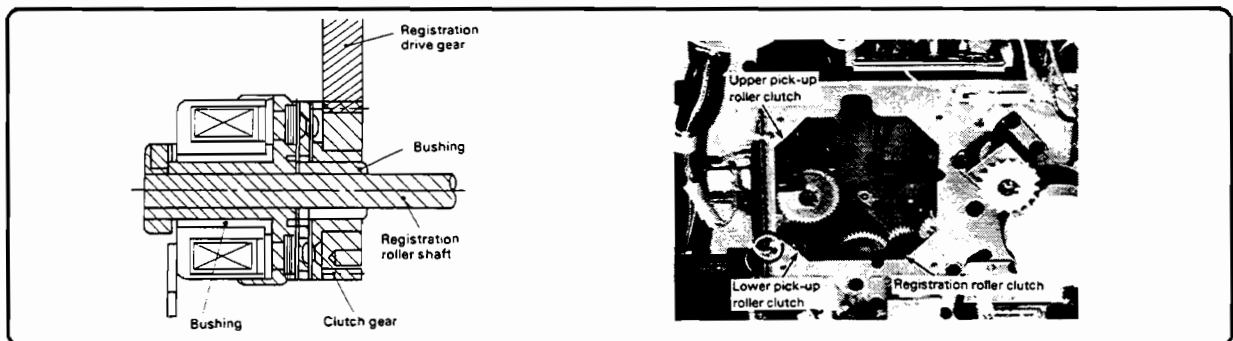

Figure 6-106. Registration Clutch
3. Remove the PDX connector mounting plate (one screw - see Figure 6-106). Move plate aside for access.